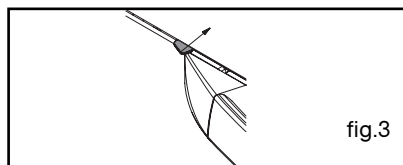

fig.3
- Open the door and press the switch on the panel (fig.3).